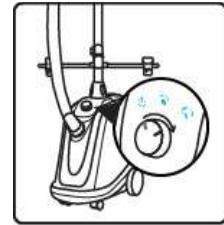

fig.17
- Plug in the power cord and turn on the power button. The power light will illuminate. The steamer is operating. (fig.17)